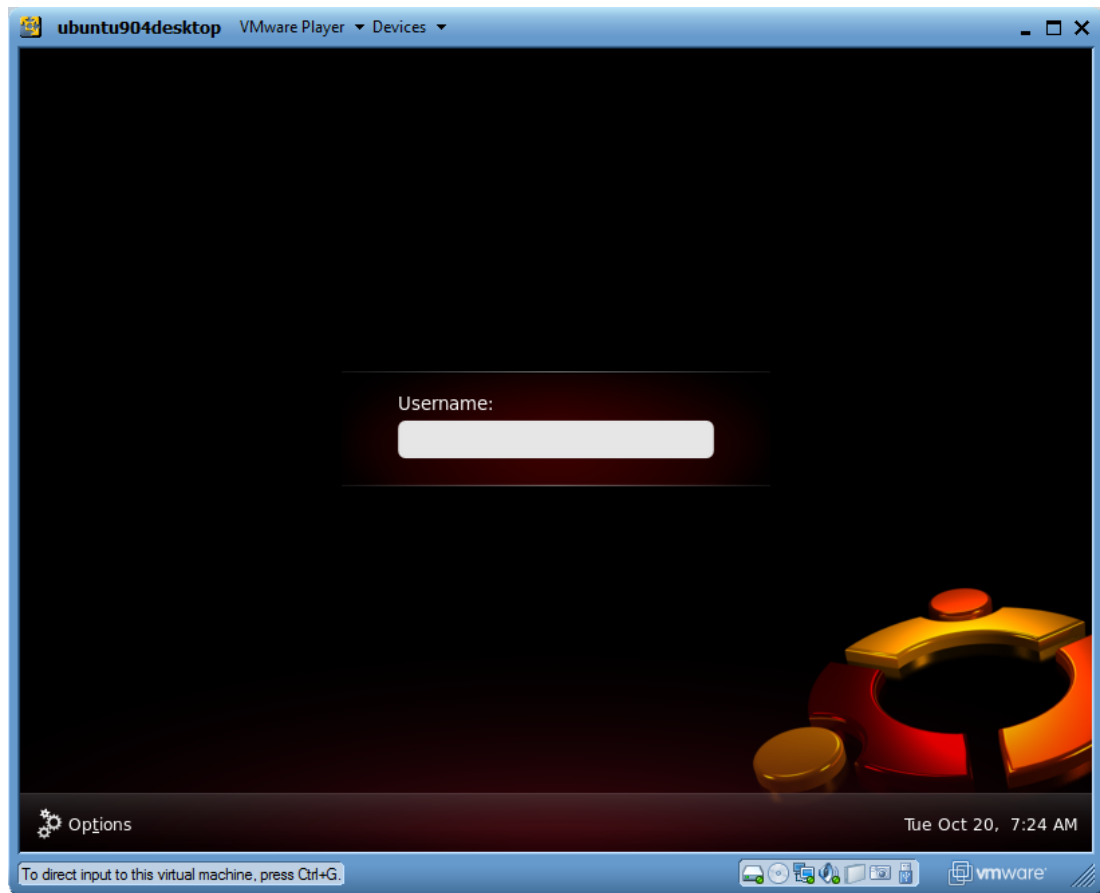

Figure 5 Ubuntu Login Screen
6. When Ubuntu has started you will see a Login dialog where you can choose which user to login, see Figure 5. Enter "user" (without quotation marks) as the user and "chrysaor.info" as the password.